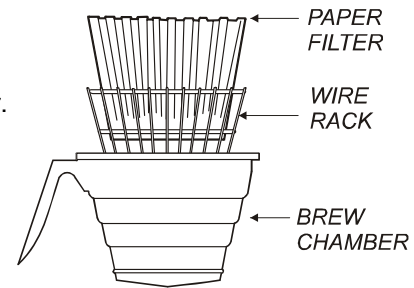

Fig. 8 Preparing the Brew Chamber
4. Remove the spray disk from the brew head (See figure 8):